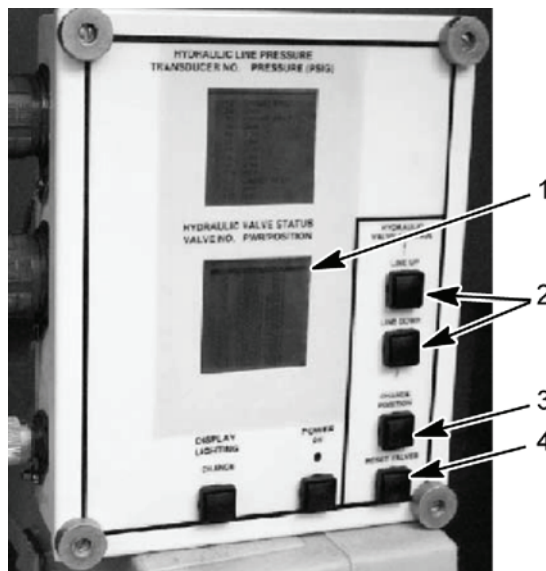

Figure 41. HDC Control Box
- Reset all HDC solenoid valves by selecting the RESET VALVES button (Figure 41, item 4) on the HDC control box.
- Using LINE UP or LINE DOWN button (Figure 41, item 2), select V1 on the HDC display (Figure 41, item 1). Close V1 on the HDC display (Figure 41, item 1) by selecting the CHANGE POSITION button (Figure 41, item 3) on the HDC control box.